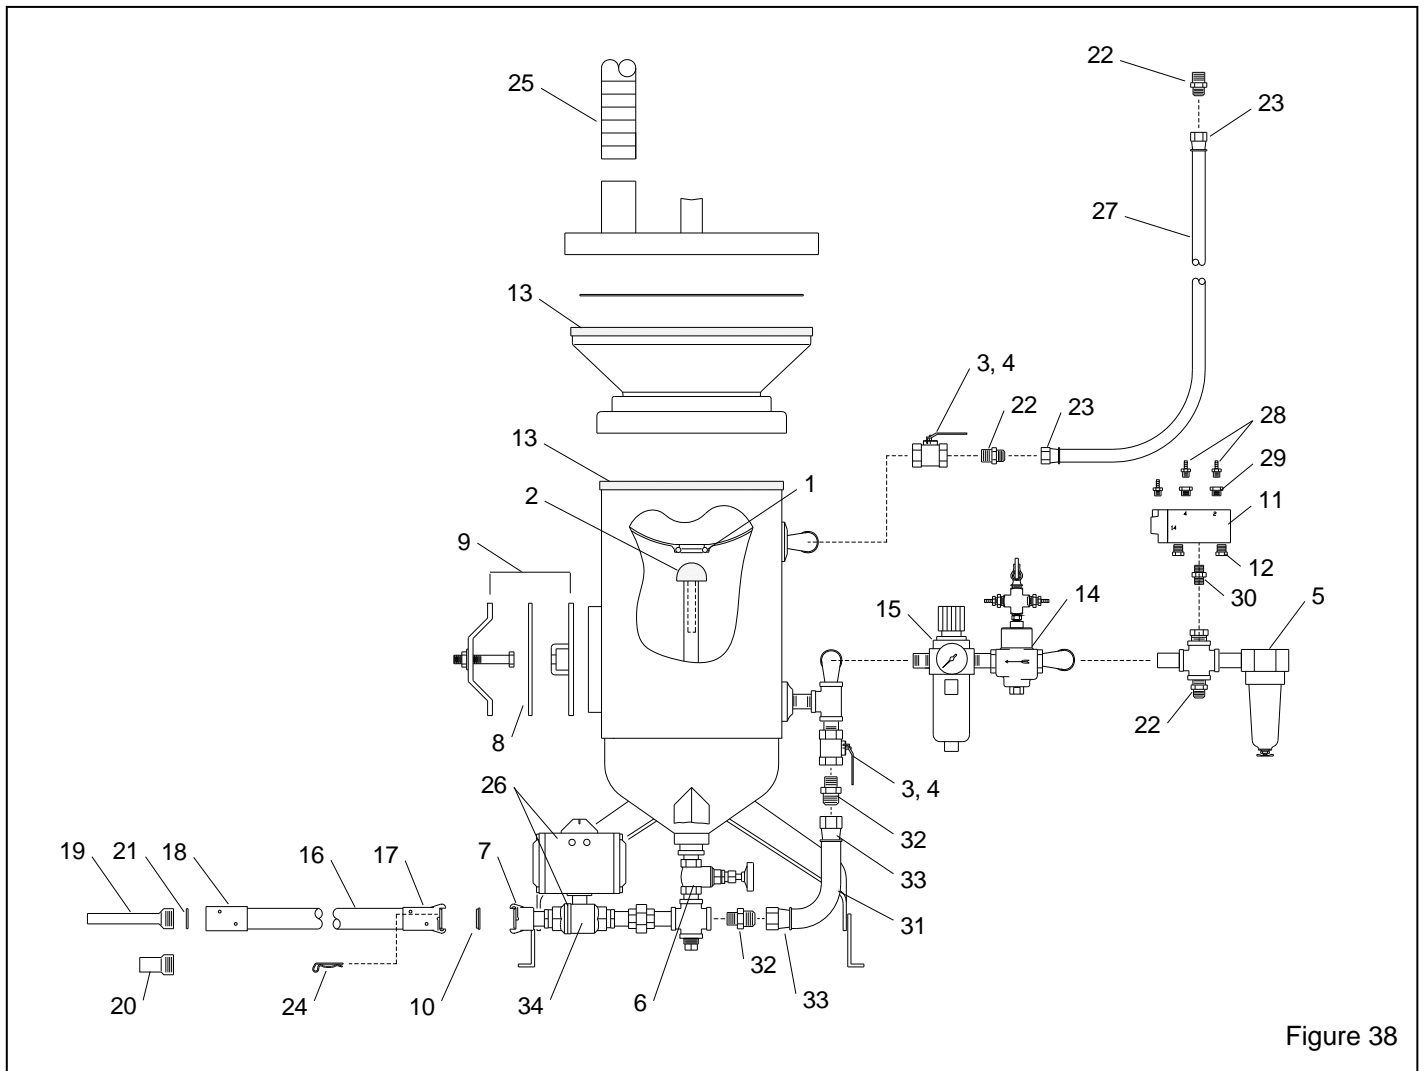

Figure 38
10.8 Blast Machine and Accessories – Figure 38